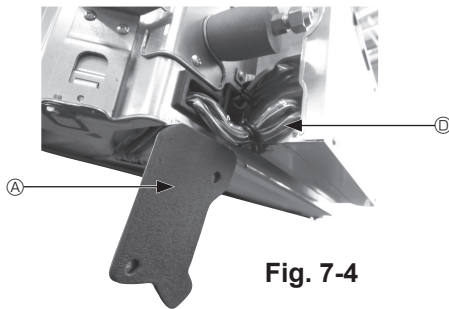

Fig. 7-4
① Remove the two screws securing the wire cover of the main unit, and then open the cover.
② Route the wires of the i-See sensor and signal receiver through the wire inlets in the electric component box as shown in the diagram and around the bushings on the side of the main unit. (Fig. 7-4)